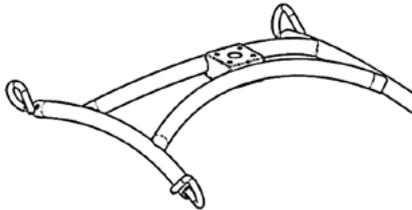

Fig. 6
1. Place the attachment cradle on to a flat surface (See Fig. 6).